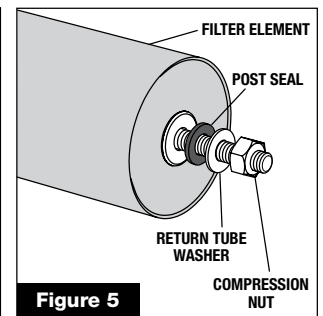

Figure 5
- 13 Replace the bottom post seal, return tube washer and compression nut (**figure 5**).